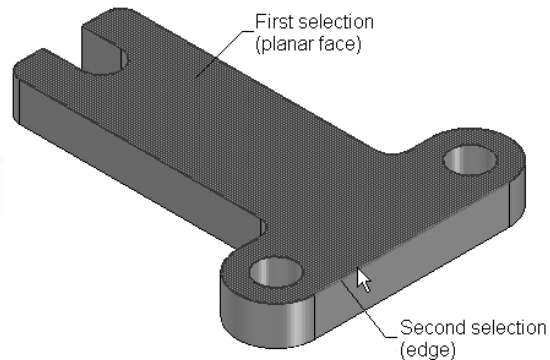

Figure 5-71 Making selections to create an angled plane
3. Select the top face of the base feature, as shown in Figure 5-71; the face is highlighted and you are prompted to click on the face, edge, or plane to be the base of the profile plane. You need to select an edge through which the angled plane will pass. In this case, the right edge of the top face of the base feature will be selected as the edge through which the plane will pass.
4. Select the edge through which the angled plane will pass, refer to Figure 5-71.